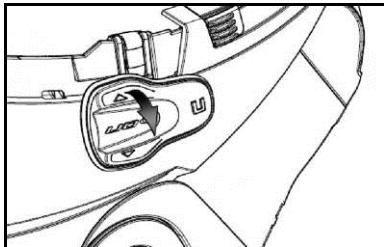

Fig. 19
- Remove the keypad from the shell, as shown in fig. 19.